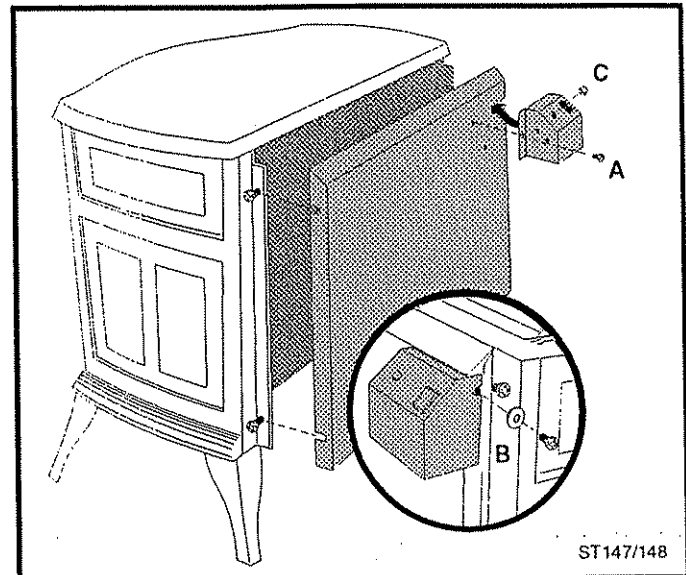
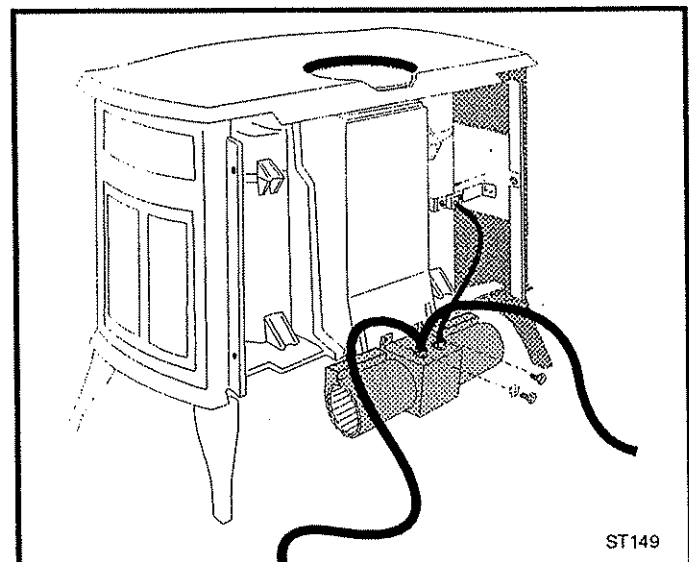

Fig. 19 Remove the rear shroud and switchbox.
Fig. 20 Attach the fan assembly to the bottom of the stove.
- 1. Remove the rear shroud.** (Fig. 19)
- 2. Remove the switch box.** (Fig. 19)
- Remove the hole plug (C) from the box.
- 3. Attach the fan assembly.** (Fig. 20)
1. Remove the rear shroud. Fig. 19, page 13. Use work gloves to protect your hands. Loosen the two phillips screws on each side of the rear shroud. Disengage the shroud and set it against the stove.